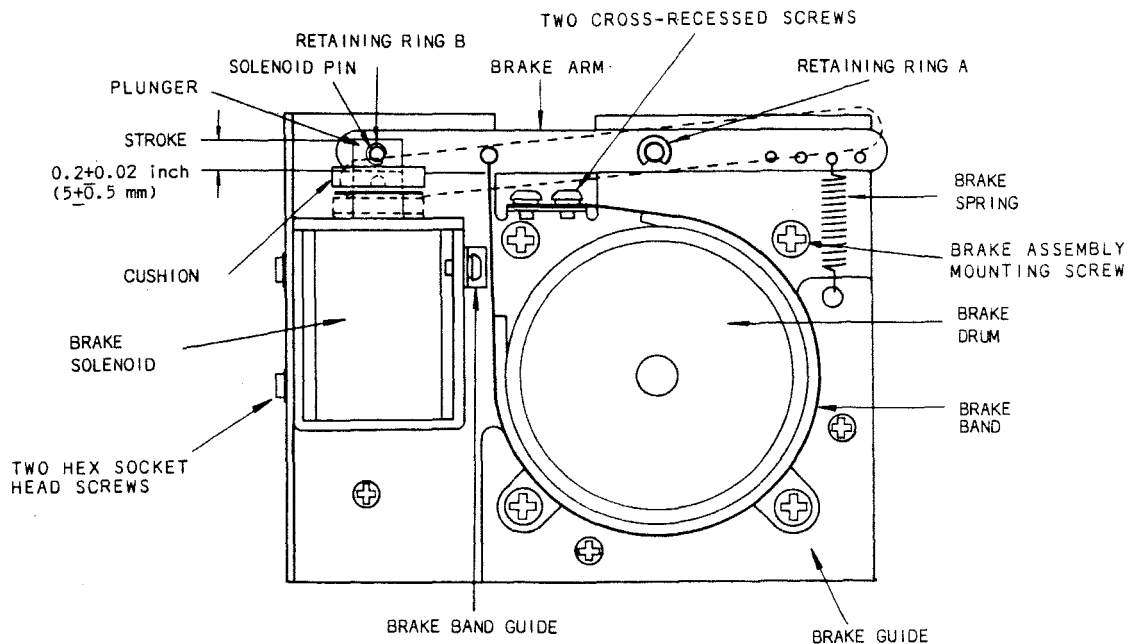

Figure 8-2 Brake Assembly
4. Remove the brake assembly and the brake drum by removing the four brake assembly mounting screws and two hex socket head screws on the bottom of the reel motor as shown in Figure 8-2.
When a new brake arm assembly or new brake solenoid is installed (Figure 8-2 1, it is necessary to position the brake guide and/or brake solenoid to ensure uniform brake band clearance around the brake drum when the solenoid is energized.